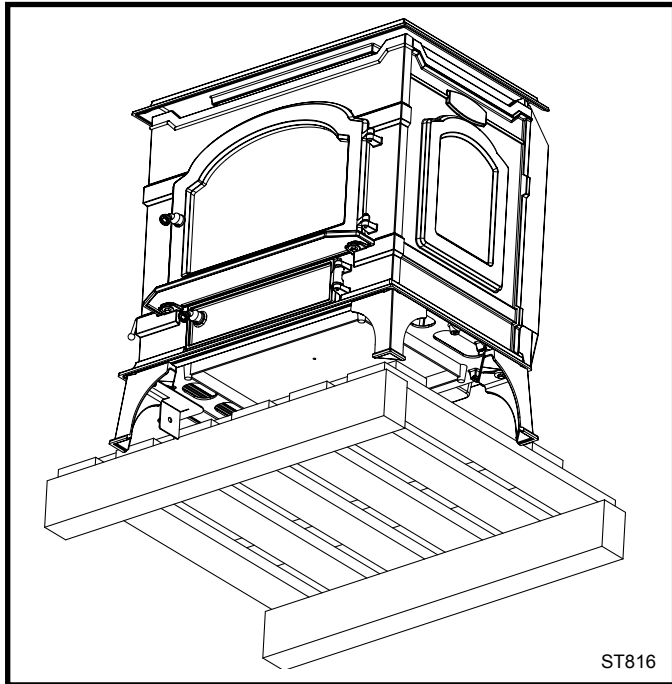

Fig. 26 Reposition stove so one rear leg can be attached.
7. Reposition the stove so the first rear leg can be attached. Attach the leg using the procedure described in Step 6. (Fig. 26)